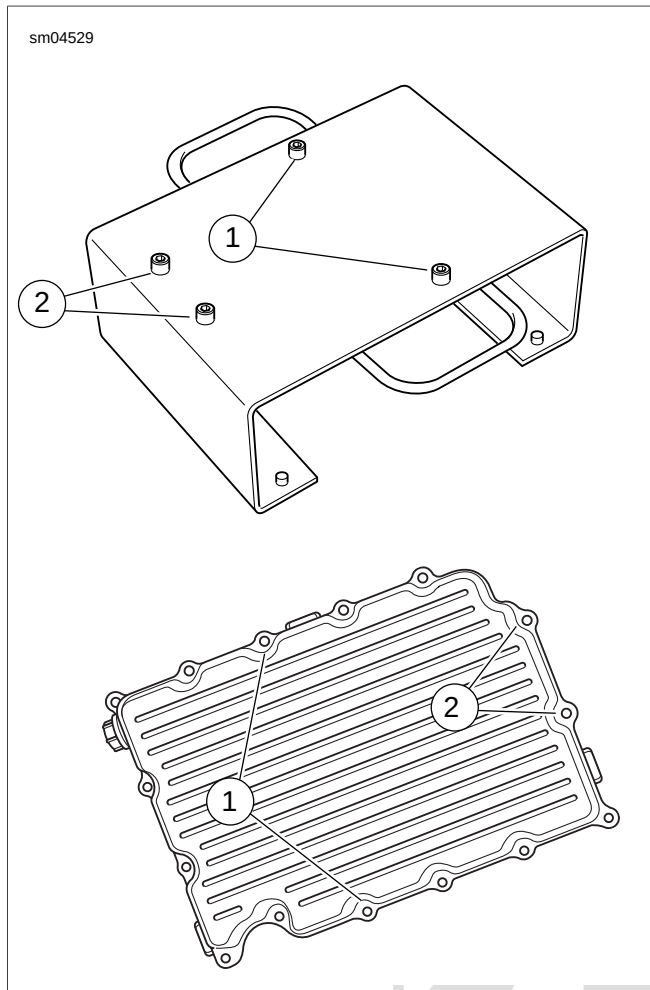

Figure 2-11. Engine Assembly Support Fixture Alignment
39. See Figure 2-11. Raise motorcycle and position ENGINE ASSEMBLY SUPPORT FIXTURE (Part No. HD-45317) under engine.
- a. Align the two bolts (2) at rear of fixture with mounting screw detents at bottom rear of oil pan.
- b. Align the two bolts (1) on each side of front of fixture with corresponding mounting screw detents on sides of oil pan.